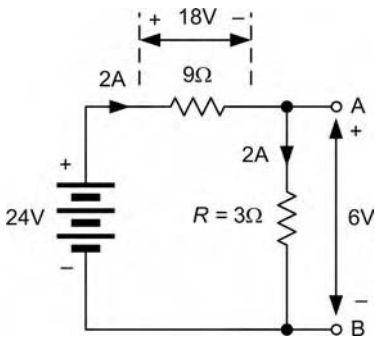

Figure 5.32 Using Ohm's law to find the value of R .
- (b) Finally, since we now know the voltage, V , and current, I , that flows in R , we can apply Ohm's law again in order to determine the value of R (Figure 5.32):